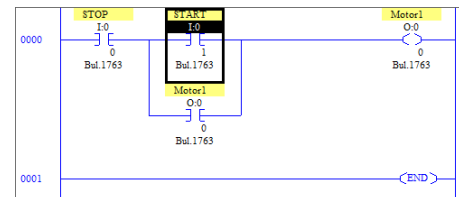

Figure 4: Motor control ladder logic
- f. Add Turn on a bit (ON) to turn on the output.
- i. Test you program for effort from Edit >> Verify file. Fix any error if displayed. Your program should look like similar to figure 4.
One of the advantages of having a transfer function is that the output from a system can be determined for any type of type varying input. For example say the fuel valve was open like in the figure shown in figure 4, how would the COT vary with time?